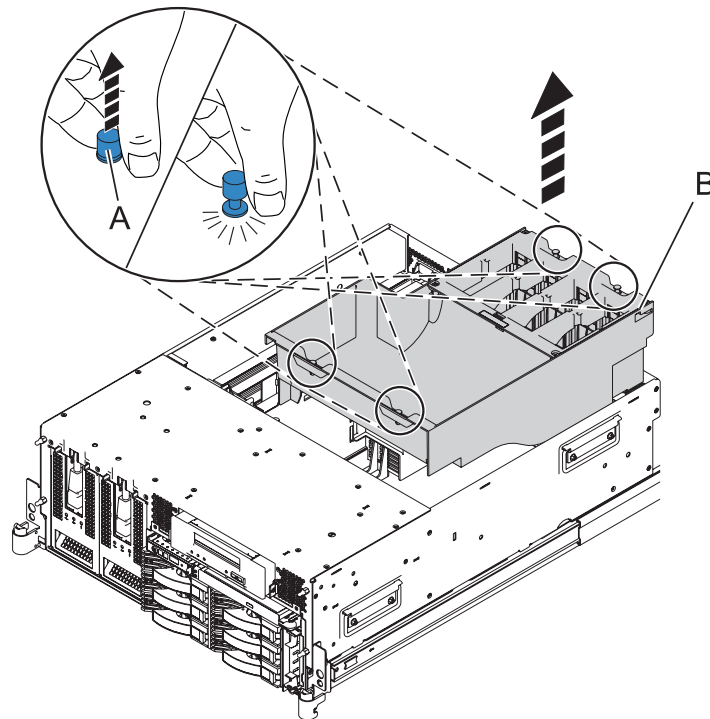

Figure 15. Removing the air baffle
- Remove the air baffle by lifting each of the four locking tabs (A) and lifting the baffle (B) out of the system as shown in Figure 15.